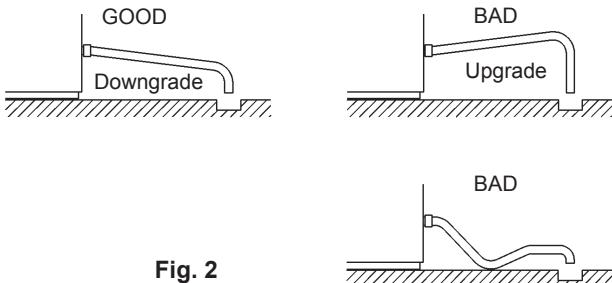

Fig. 2
- \* To prevent a backflow into the storage bin, the outlet hose must be laid as shown in Fig. 2.